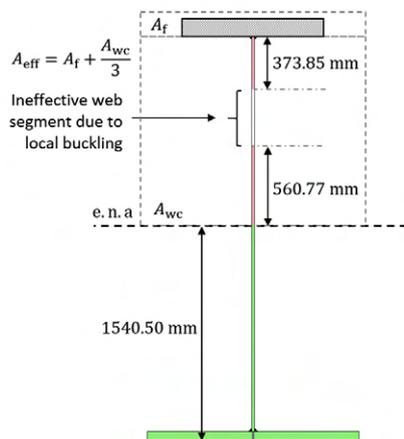

Figure 9 : Main beam effective area^[18]
27 undertaken based on EN 1993-1-1 section 6.3.2.4(1) / EN 1993-2 6.3.4.2. The process will be analogous to the one described in the previous worked example, but for this case an equivalent compression strut needs to be defined for the process. EN 1993-2 clause 6.3.4.2(7) states that the area of the equivalent strut may be assumed the area of the compressed flange plus 1/3 of the compressed web area, accounting for the effective web area due to local plate buckling. The main beam cross section is class 4 under sagging bending moment due to the slender web. The effective cross section area is represented in Figure 9. In this example, the effective area of the equivalent strut is therefore $A_{eff} = 1000 \times 120 + 20 \times (373.85 + 560.77) / 3 = 126230.80 \text{ mm}^2$. The equivalent strut out of plane second moment of area is based on the flange plate (ignoring the small contribution of the web), which has a value of $I = 1.0 \times 10^{10} \text{ mm}^4$.